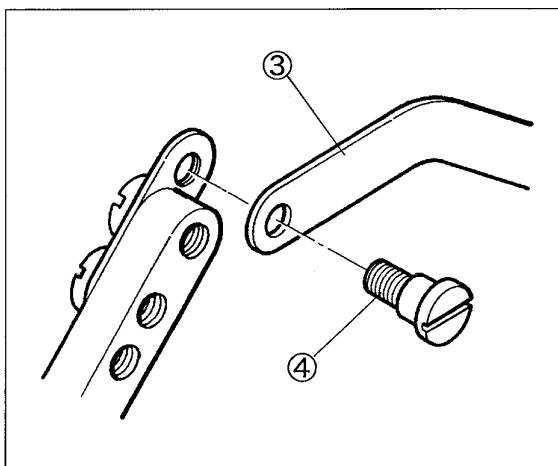

Fig. 2-13
When using the pedestal, link the presser foot lifting connector③ with the screw④.(Fig.2-13)